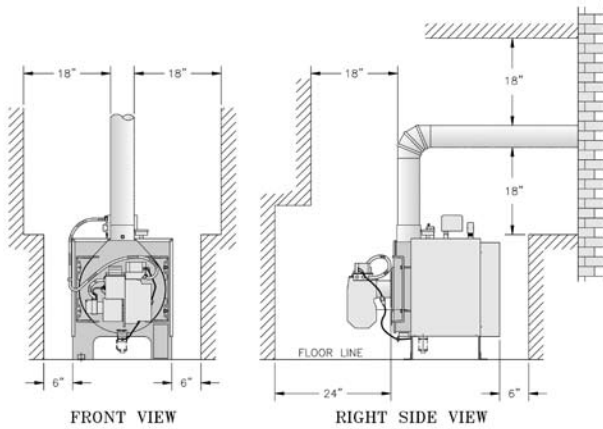

Figure 2: Minimum Installation Clearances To Combustible Materials
D. For minimum clearances to combustible materials See Figure 2.